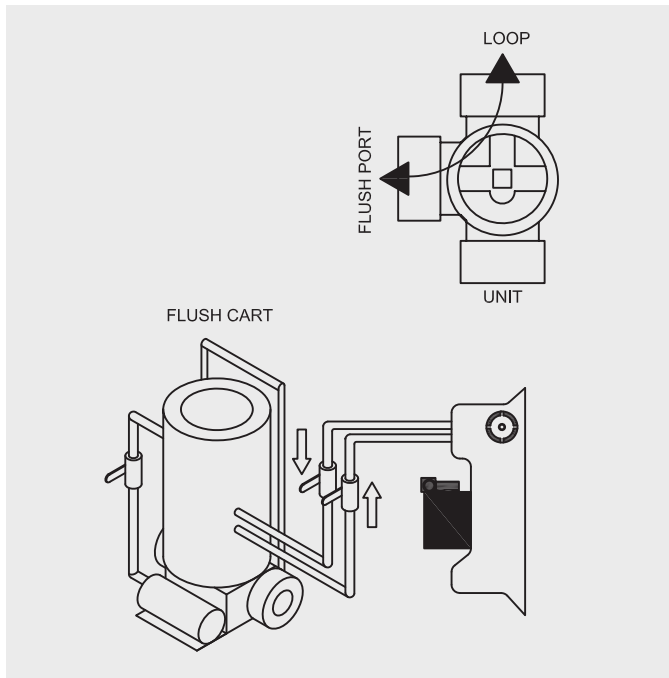

Fig. 113 Flush cart step 3
- Once all debris is removed make sure the return hose is below the reservoir water level. Continue running the flush cart pump while observing any air bubbles in the reservoir (Figure 113). "Dead head" the pump every so often (surges of 50 PSI) and watch the water level in the reservoir (once all the air is removed there should not be more than a 1" to 2" drop in water level in the reservoir). If there is more than a 2" drop, air is still trapped in the system. The fluid level drop in the reservoir is the only indication of air in the ground loop.